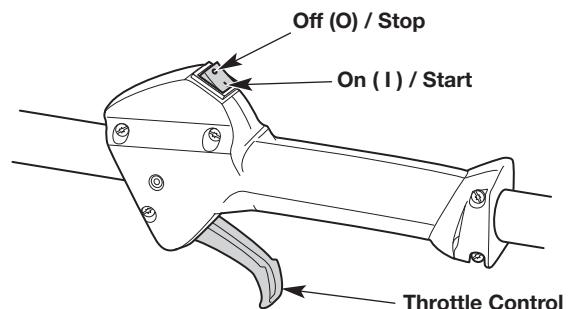
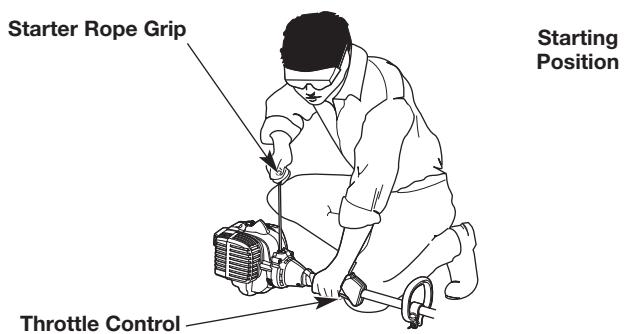

Fig. 6
Fig. 8
WARNING: Avoid accidentally starting the unit. To avoid serious injury, the operator and the unit must be in a stable position when pulling the starter rope (Fig. 8).
- NOTE:** There is no need to turn the unit on. The On/Off switch is in the ON (I) position at all times (Fig. 6).
5. Crouch in the starting position (Fig. 8).
6. Squeeze the throttle control (Fig. 6) and pull the starter rope with a controlled and steady motion **5 times** (Fig. 8).
2. Press and hold the On/Off switch in the OFF (O) position until the engine comes to a complete stop (Fig. 6).
7. Squeeze and hold the throttle control (Fig. 6). Run the electric start accessory for 2 seconds.